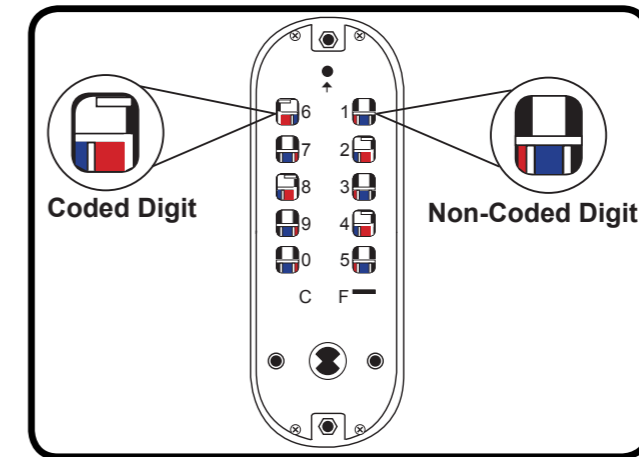

Fig.15
4. As per the example **Fig.15** below, you will see that the red lines on digits 2, 4, 6 and 8 are closest to the centre of the porthole and is therefore the code. All the other holes will show a blue line - these are not in the code. Once all the coded buttons have been pressed all 10 holes will have a blue line in the centre of the portholes.